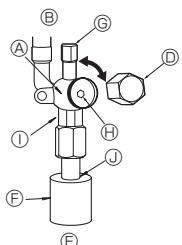

Fig. 4-6
- (1) Gas/Liquid side of ZRP35-71 (Fig. 4-6)
- ① Remove the cap and turn the valve rod counterclockwise as far as it will go with the use of a 4 mm hexagonal wrench. Stop turning when it hits the stopper.